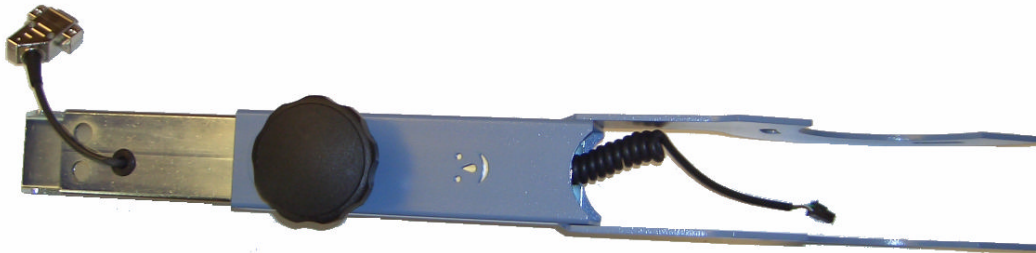

Figure 4 Slide the safety handle extension into the safety handle mount
2. Slide the safety handle extension into the safety handle mount as shown in Figure 4. Ensure that the Controller power cable also passes completely through.